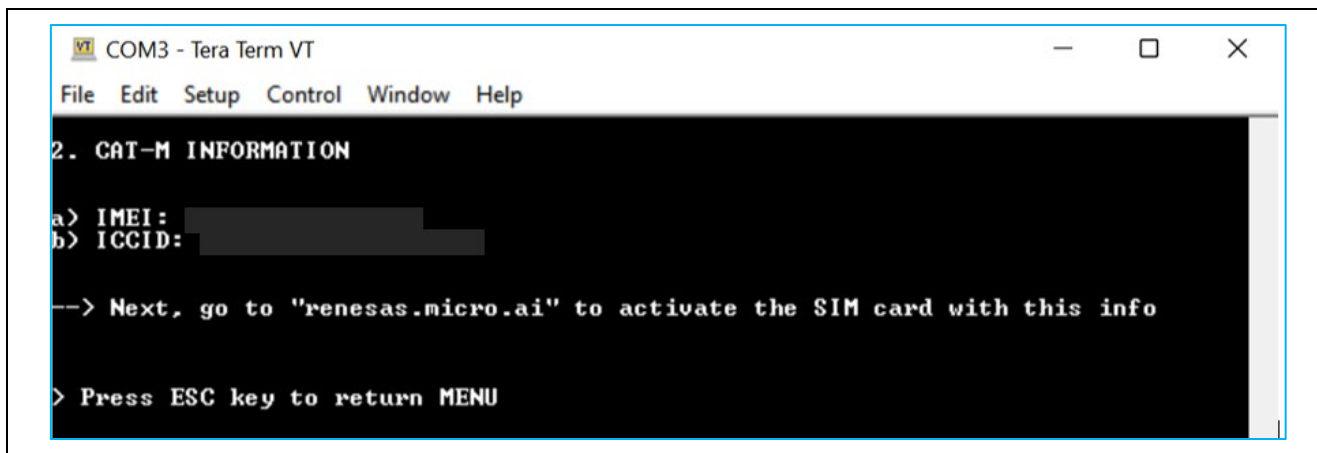

Figure 10. RYZ014A_PMOD Information
8. Select the device profile created from the **Device Profile** drop-down. Enter a **Device Name**. For the **Device ID**, enter the **IMEI** value obtained as seen in Figure 10. RYZ014A_PMOD Information . Fill other fields as needed.
10. Enter the **ICCID (or EID)** value for the **SIM EID** field, select the **Region/Country** and click Save SIM. Note: the **ICCID** value is found in Figure 10. RYZ014A_PMOD Information. Alternately, the EID is supplied with the SIM card documentation.